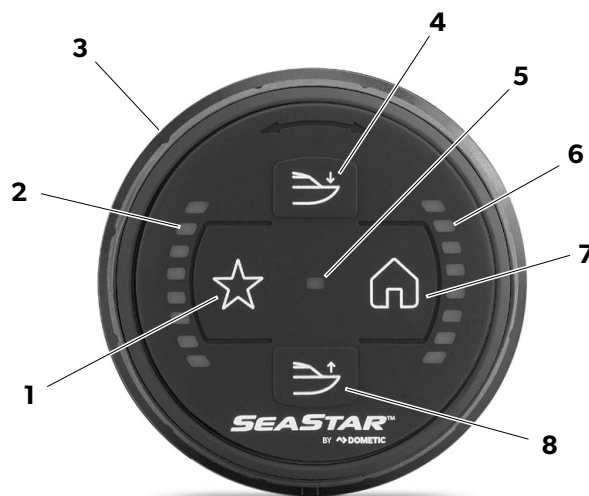

Figure 14-10.
- Press the Favorite button (see figure 14-10) for five seconds.
- Press the Favorite button (see figure 14-10).
- ✓ The system status indicator (see figure 14-10) will light up magenta or lime green. Magenta indicates that SOG is used to control deployment, while lime green indicates RPM is used.